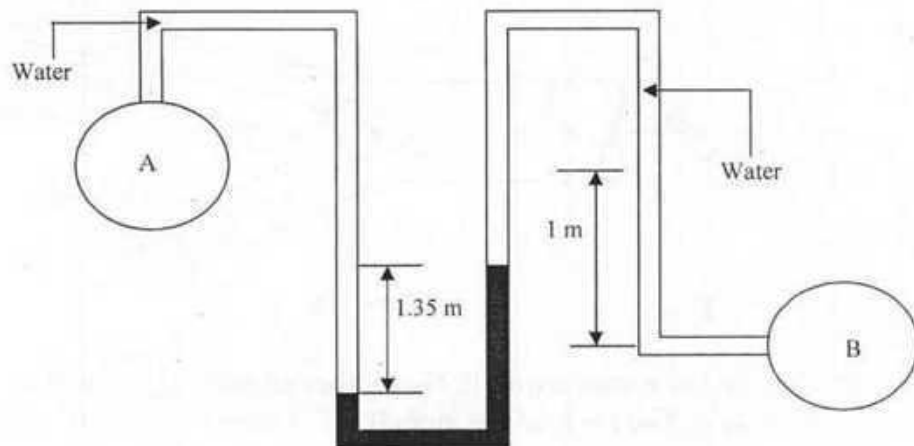

Figure 2
- (c) Define "Absolute Pressure." Calculate the pressure difference between point A and B of Figure 2. Given specific weight of water is 9.81 KN/m^3 . (1+4=5)